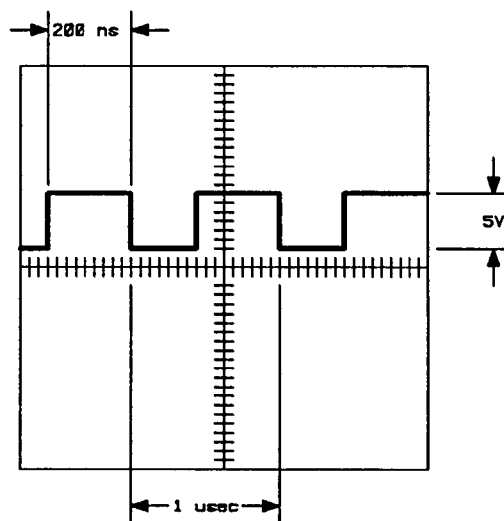

Figure 5-40. PAC Adjustment Waveform
- 4. Set Oscilloscope channel 2 input to DC coupled,  $50\Omega$  impedance, inverted. Adjust Pulse Generator amplitude to display waveform as shown in figure 5-40.